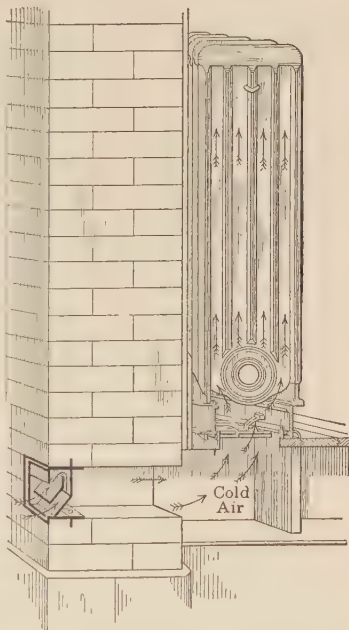

FIG. 36. — A good way to bring fresh air into the house.
35. Ventilation by flue radiators. A flue may pass from beneath a radiator through an outside wall, as in Fig. 36, in order to secure a supply of fresh air. Dampers in this flue regulate the amount of air which enters. To heat this additional air will probably require an increase in fuel consumption of about 25 per cent, but the ventilation secured is worth the extra expense, especially if many people are accustomed to use the rooms.